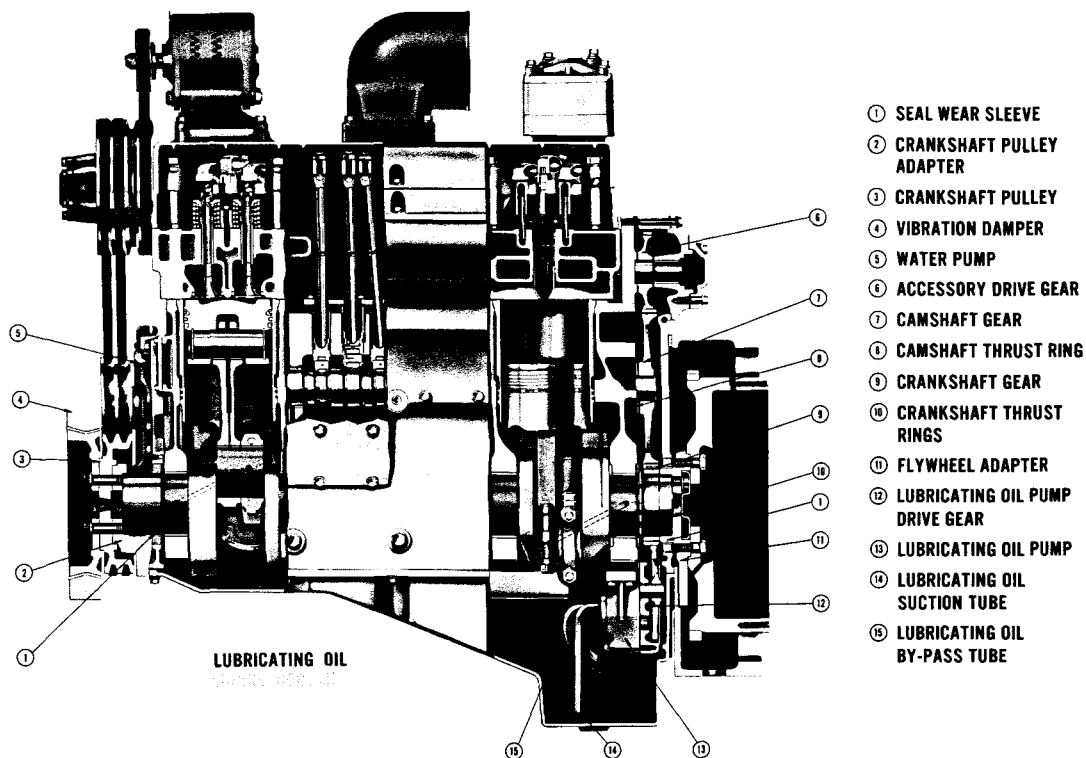

Fig. 5-16, (LWC-16). Lubricating oil and coolant flow — V-903
Oil drawn from pan sump through a screen is delivered to engine working components through oil lines and oil headers which are drilled the length of block. Drillings in block, cylinder head, crankshaft and rocker lever shafts complete oil circulation passages. Fig. 5-16 and 5-17.
1. Oil flows from cooler and filter to right bank of oil drilling at front of engine to front center of block. Oil flows through crossover at front of block to left bank and right bank main drillings (drilled length of block). Fig. 5-16.